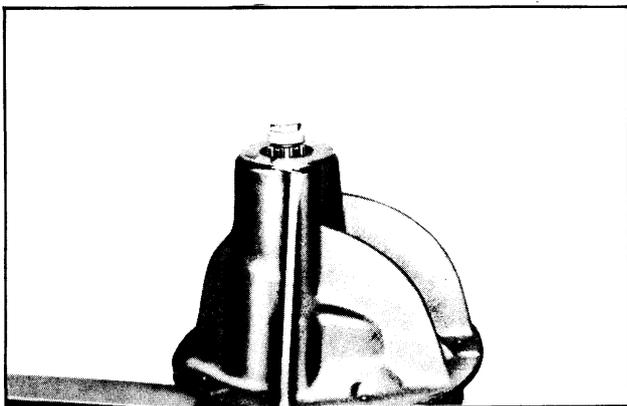

Fig. 6-18 Removing Pinion Assembly
- c. If pinion has a tight press fit in front bearing, remove with an arbor press. (See Fig. 6-18)